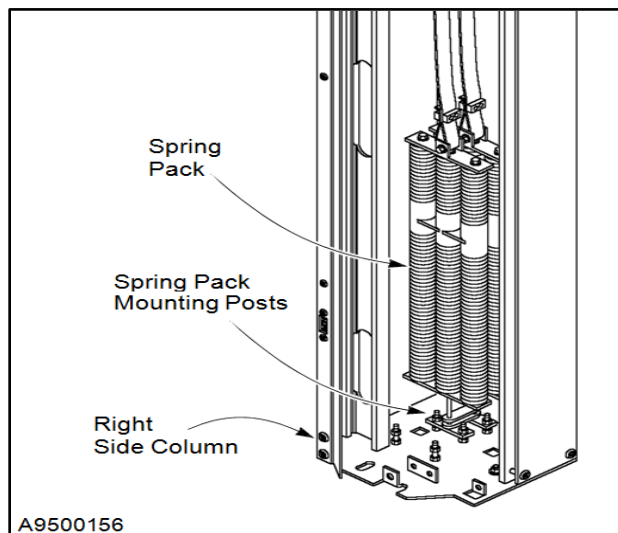

Figure 36
3. Inspect each spring pack assembly. Springs should not be stretched, worn, or damaged. Replace if necessary. Tighten the hardware as required. Replace any missing or damaged hardware. (See Figure 36.)